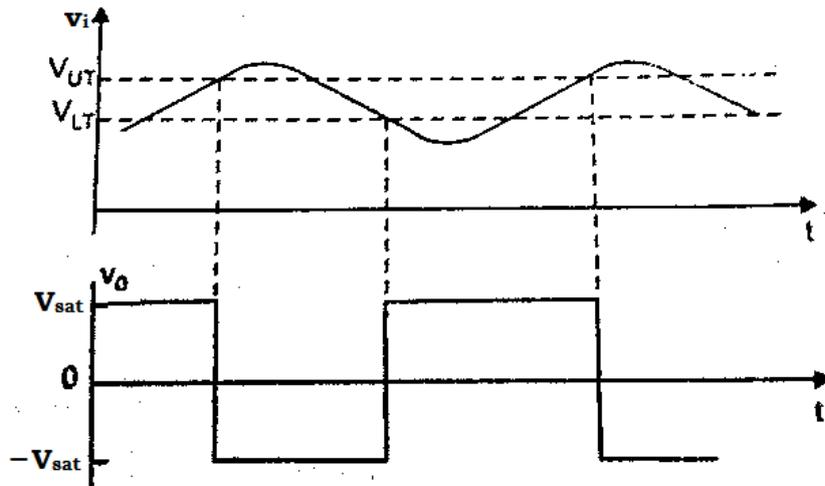

Fig. 3.28 Schmitt trigger used as a squarer
- The most important application of Schmitt trigger circuit is to convert a very slowly varying input voltage into a square wave output as shown in Fig.3.28.